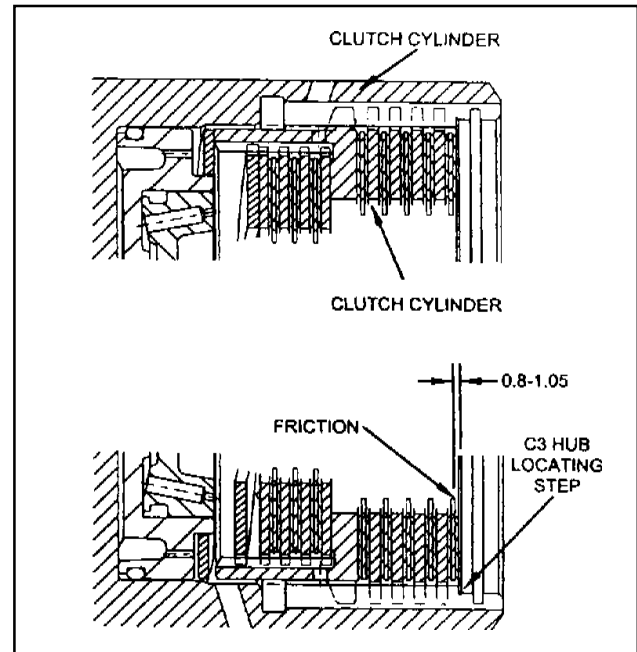

Figure 8.26 - Typical C2 Clutch Pack Clearance
26. Check the clutch pack clearance using only the weight from tool No.0555-331900. Refer to figure 8.26.